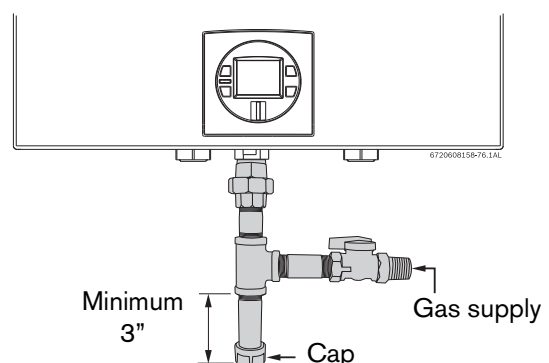

Fig. 28 Gas connection (drip leg)
- ▶ National Fuel Gas Code requires that a sediment trap (drip leg) be installed on gas appliances not so equipped. The drip leg must be accessible and not subject to freezing conditions. Install in accordance with the recommendations of the serving gas supplier, see Fig. 28.